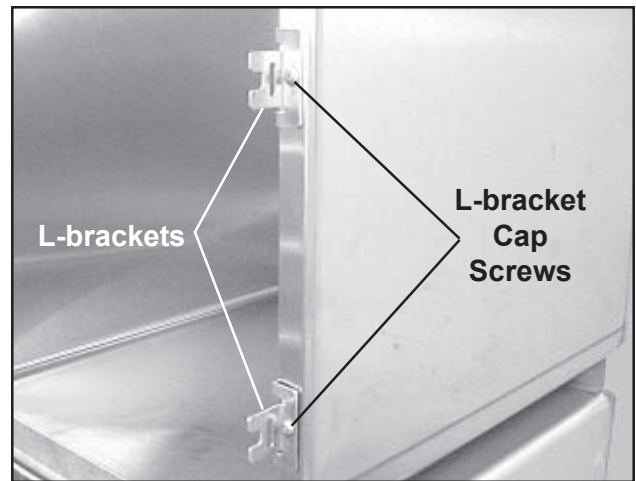

Figure 26. Removing the L-brackets
5. With a Phillips screwdriver, remove the cap screws that hold the L-brackets to the cage, and remove the L-brackets (Figure 26).